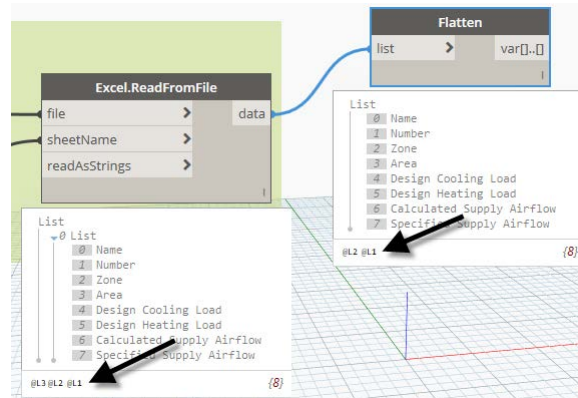

Figure 62
17. Run the graph and expand the Preview Bubble on the **Flatten** node (see Figure 62).